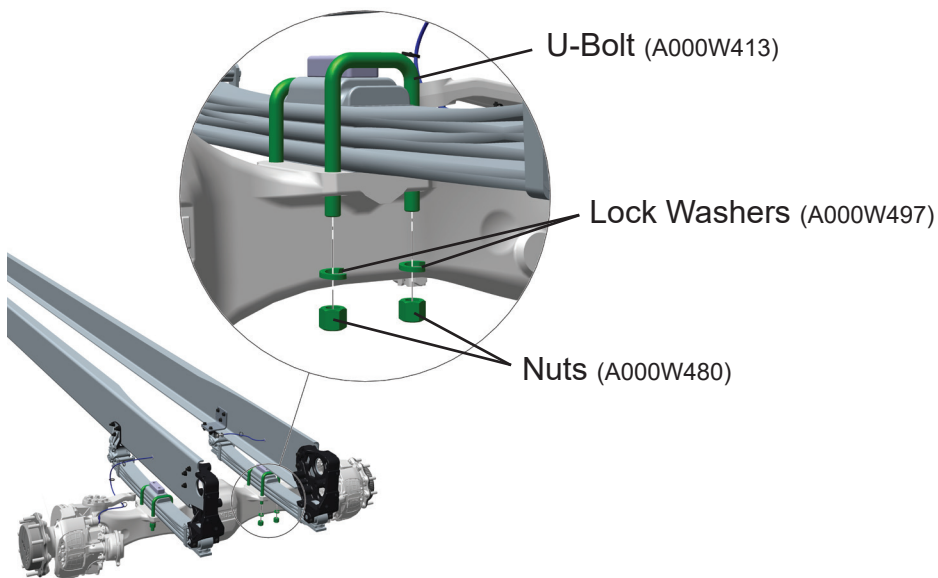

Figure 2
- Install new U-bolt (A000W413) over spring assembly and into axle flange, see Figure 2.
- Install new lock washers (A000W497) and nuts (A000W480) on U-bolt, see Figure 2. Snug nuts on U-bolt, do not final tighten at this time.